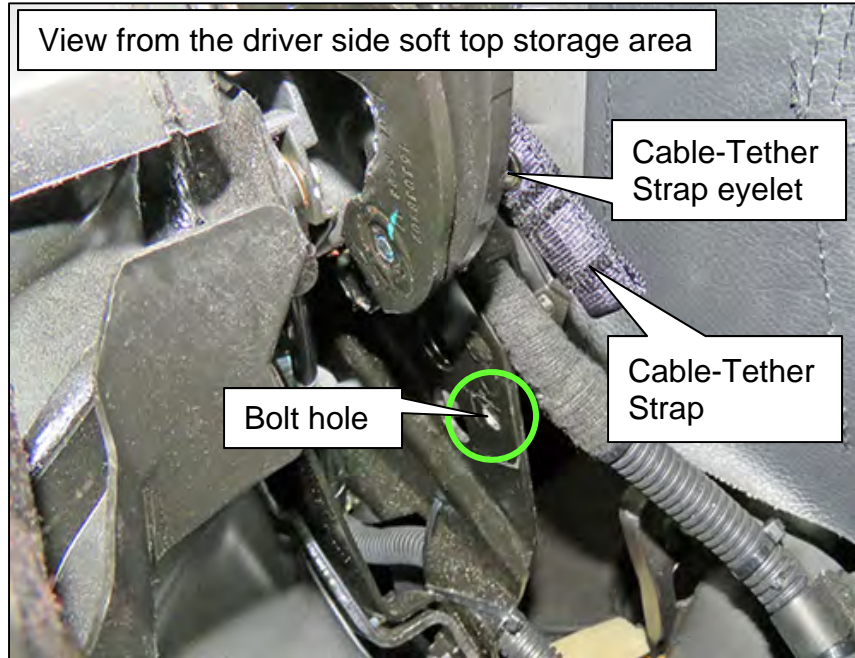
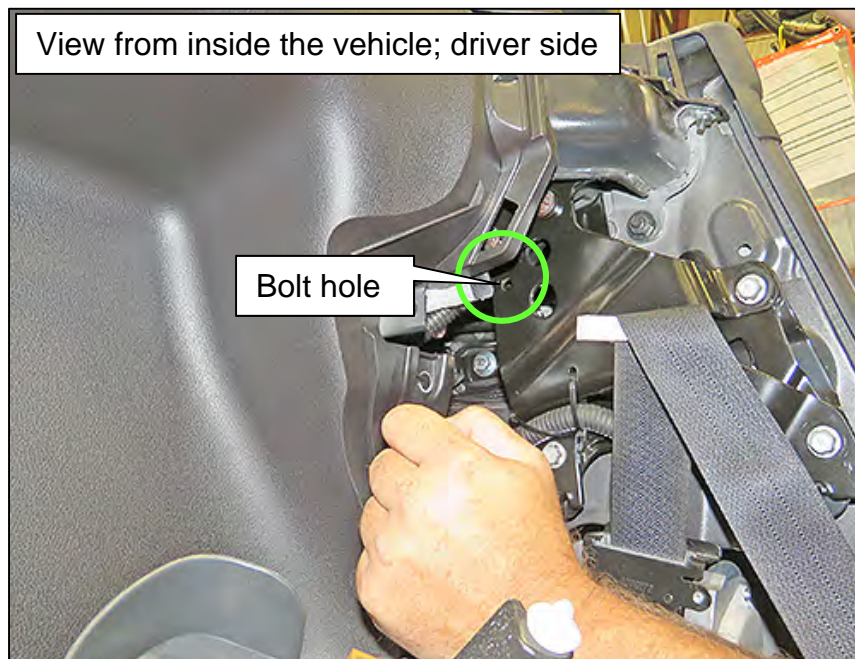

Figure 126
Figure 127
For steps 139-143 refer to Figure 126 and Figure 127 below.
- Figure 126 and Figure 127 show two views of the bolt hole that will be used to attach the Cable-Tether Strap.
- Figure 126 is from the soft top storage area and Figure 127 is from inside the vehicle.
139. Insert bolt (BOLT-SPL) through the eyelet in the Cable-Tether Strap, and then insert the bolt through the hole shown in Figure 126 and Figure 127 on page 53.